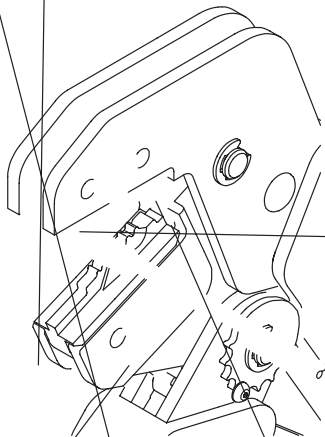

Figure 3
wire strands. Select an applicable terminal or splice and identify the appropriate crimping chamber according to the wire size markings on the dies. Refer to Figure 3 and proceed as follows:
2. Center the terminal or splice wire barrel on the anvil of the upper die as shown in Figure 3. If visible, be sure to place the brazed seam on the terminal or splice toward the indenter.
4. Insert stripped wire into the wire barrel, making sure that the insulation does not enter the wire barrel. See Figure 3.